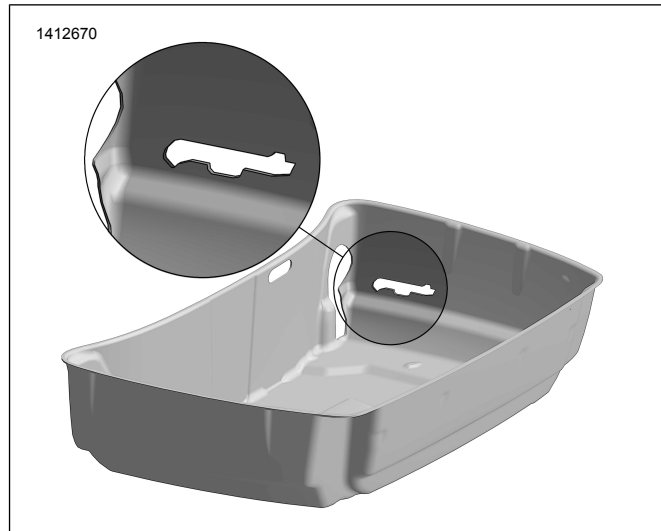
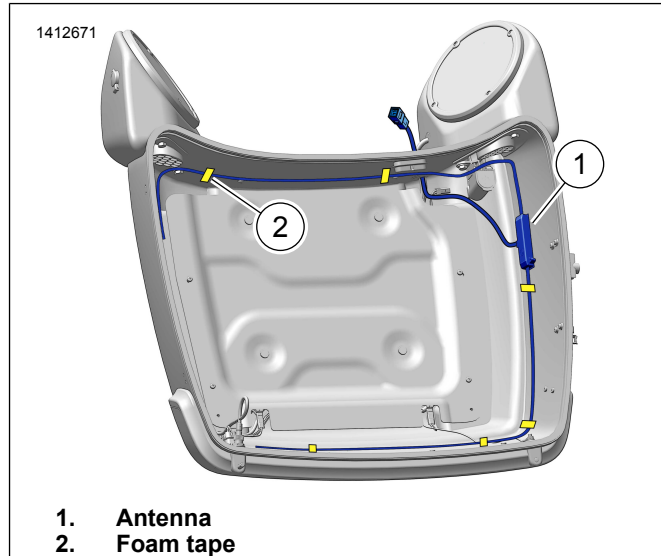

Figure 3. Cutout
Figure 4. Routing
3. See Figure 3. Trace outline of antenna module on right side forward location of liner.
5. Clean antenna mounting surface inside Tour-Pak with alcohol cleaning packets (5).
6. See Figure 4. Route and attach antenna wire (1) to Tour-Pak perimeter with foam tape (2).
8. Unplug Original Equipment (OE) AM/FM connector.